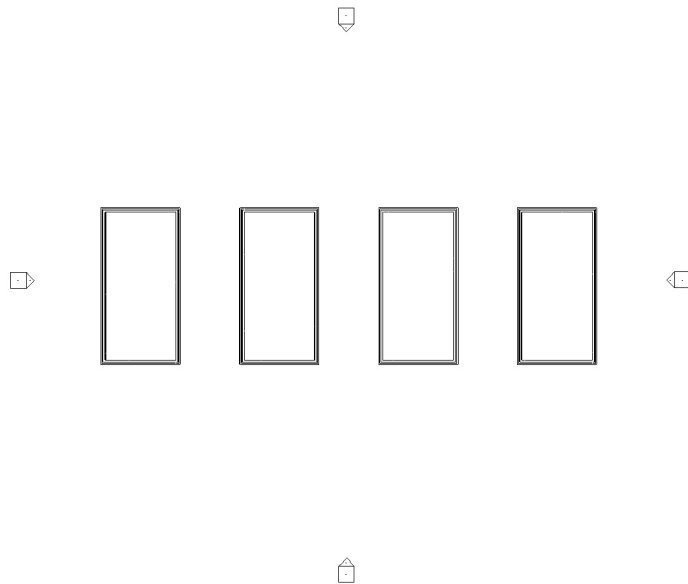

FIGURE 7-1.2 Four buildings
6. Drag a window around the walls to select them. Then use the **Array** command to set up four buildings **35'-0" O.C.** (Figure 7-1.2). See the *Array Tip* below.